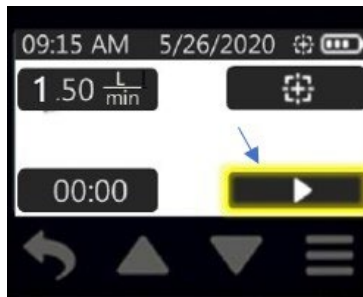

Figure 9. Run Button
4.2.1.5 Touch the Run button to start the pump (Figure 9).